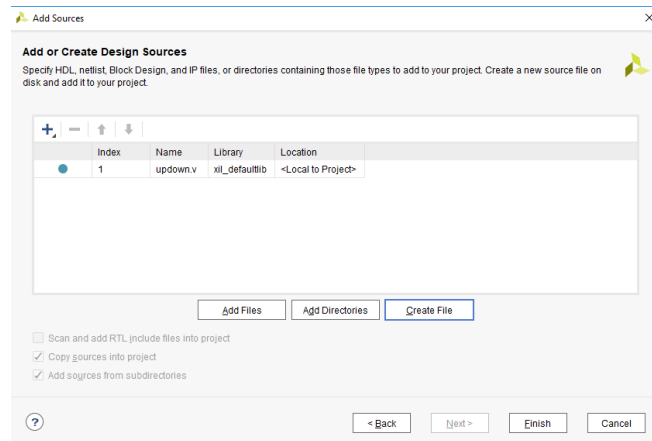

Figure 14: Source file added
4. You will be prompted back to the "Add or Create Design Sources" with the new source file added (see Fig. 14). Click "Finish" to continue.